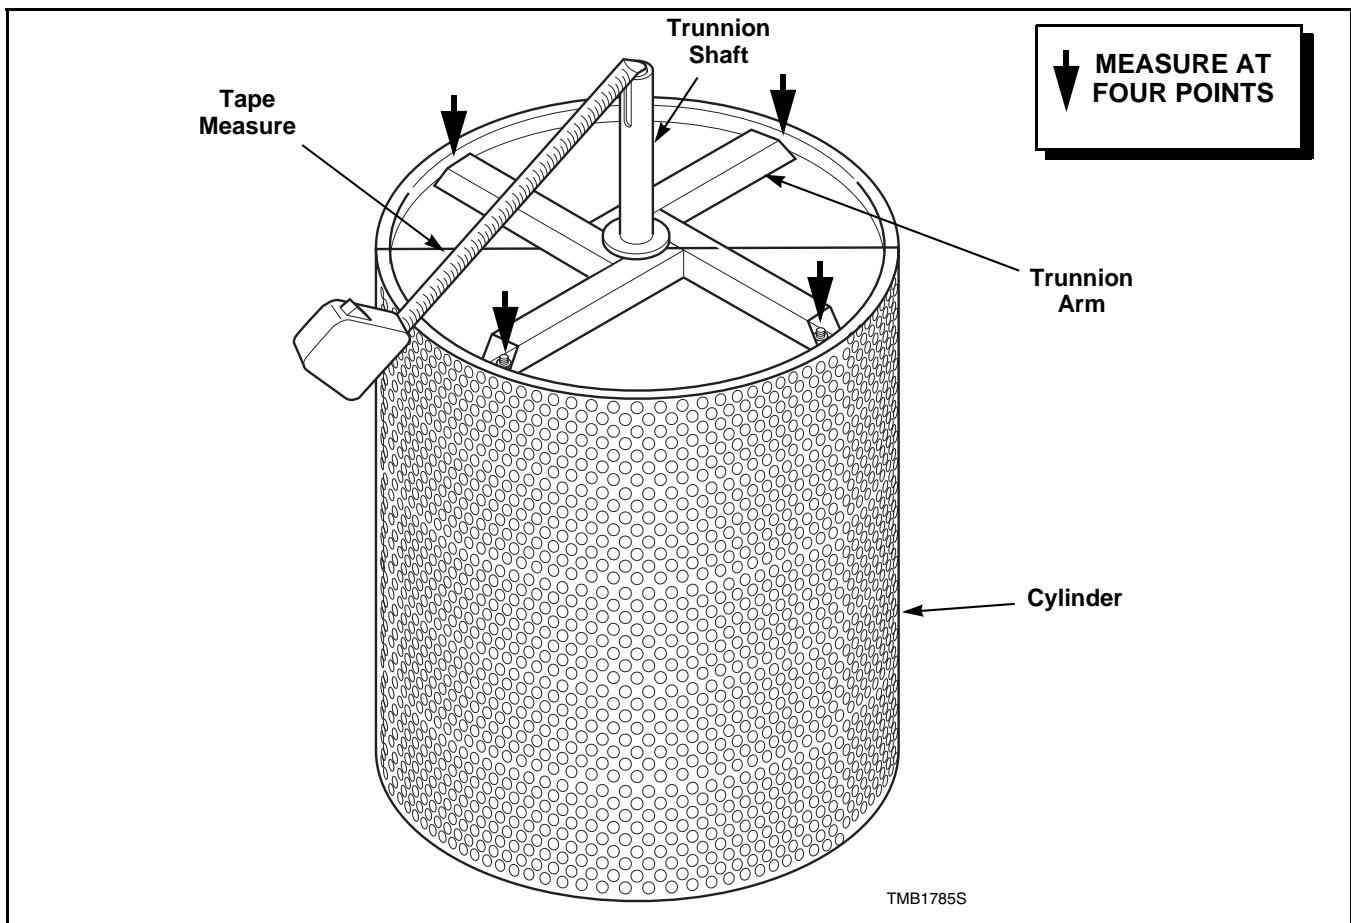

Figure 19
- f. Remove the eight washers and nuts holding trunnion shaft assembly to rear of cylinder. Refer to *Figure 19*.
IMPORTANT: When installing trunnion assembly on cylinder, the cylinder and shaft must be aligned. Refer to *Figure 19*. Measure the distance between the center of the trunnion shaft and the outer rim of the cylinder at the four points shown. If any measurement is less than the largest, place spacer(s) between trunnion arm and cylinder back until all measurements are equal.